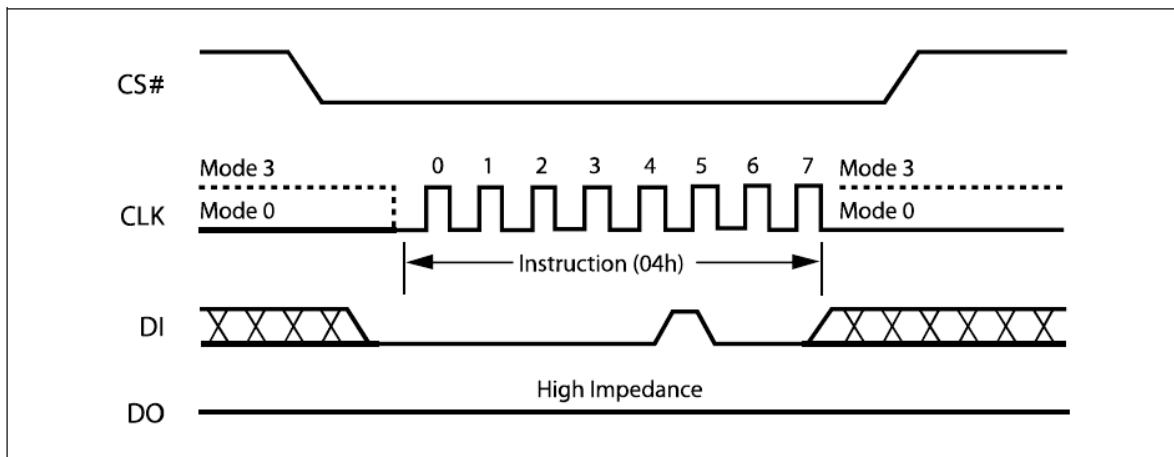

Figure 6. Write Disable Instruction Sequence Diagram
The Write Disable instruction (Figure 6) resets the Write Enable Latch (WEL) bit in the Status Register to a 0 or exit from OTP mode to normal mode. The Write Disable instruction is entered by driving Chip Select (CS#) low, shifting the instruction code "04h" into the DI pin and then driving Chip Select (CS#) high. Note that the WEL bit is automatically reset after Power-up and upon completion of the Write Status Register, Page Program, Sector Erase, Half Block Erase (HBE), Block Erase (BE) and Chip Erase instructions.